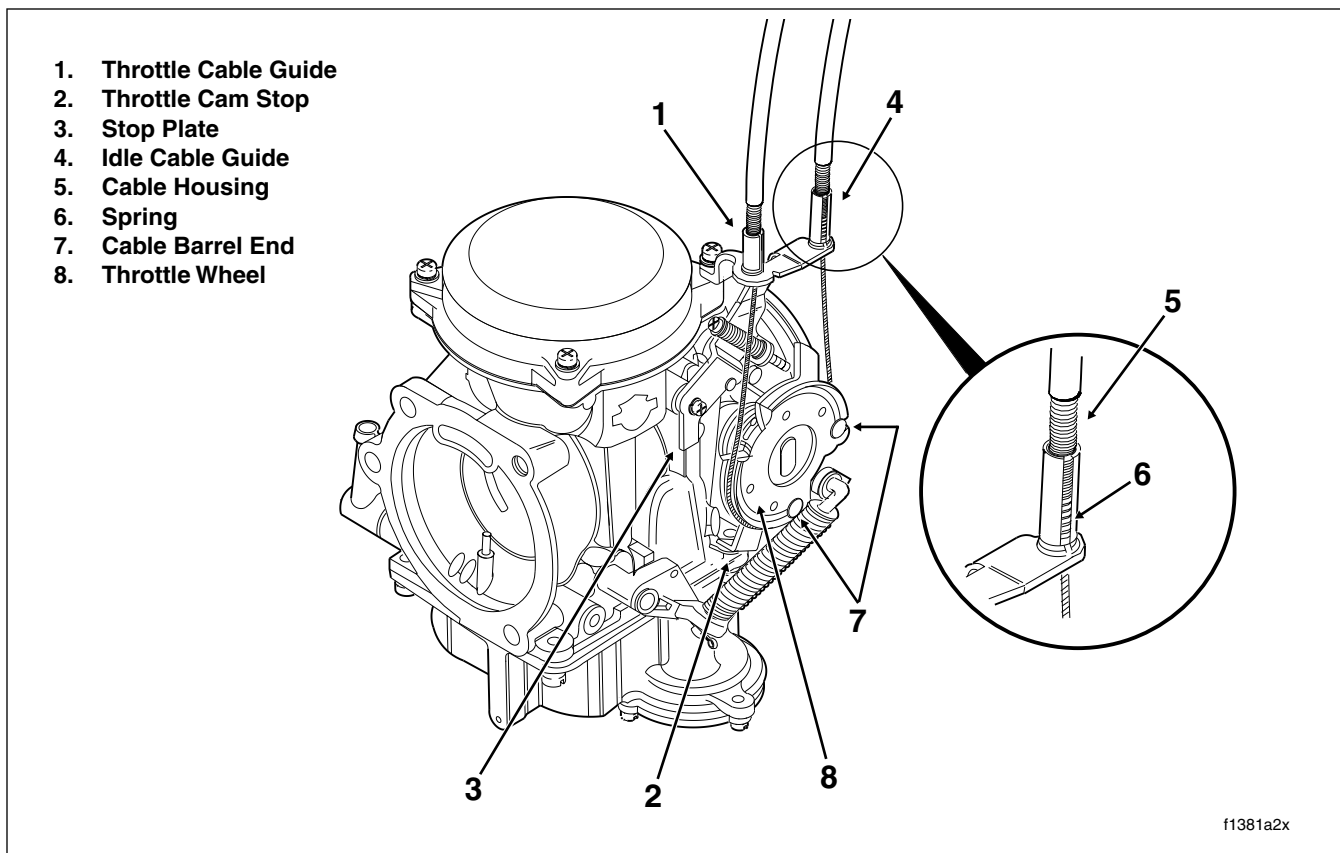

Figure 2-107. Throttle Cable Assembly - Carburetor Side
2. Point the front wheel straight ahead. Gently turn the throttle grip so that the throttle is wide open (fully counterclockwise) and then hold in position. Now turn the cable adjuster counterclockwise until the throttle cam stop just touches the stop plate on the carburetor/induction module. See Figure 2-107. Release the throttle grip, turn cable adjuster counterclockwise an additional 1/2-1 full turn, and then tighten the jam nut against the cable adjuster. Cover cable adjuster mechanism with rubber boot.
3. **Carbureted:** Using a needle nose pliers, carefully pull idle cable barrel from upper inboard hole in throttle wheel. Pull throttle cable barrel from remaining hole. Release idle and throttle cables from guides in throttle cable bracket. See Figure 2-107.
3. **Carbureted:** Install sleeve on throttle cable housing into shorter cable guide in throttle cable bracket. Drawing throttle cable downward, fit barrel end into lower outboard hole in throttle wheel. Install sleeve and spring on idle cable housing into longer cable guide inserting barrel end into upper inboard hole in throttle wheel. See Figure 2-107.